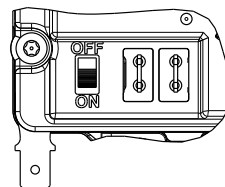

Figure 1
- Move selector switch to the "off" position. (See figure 1.)